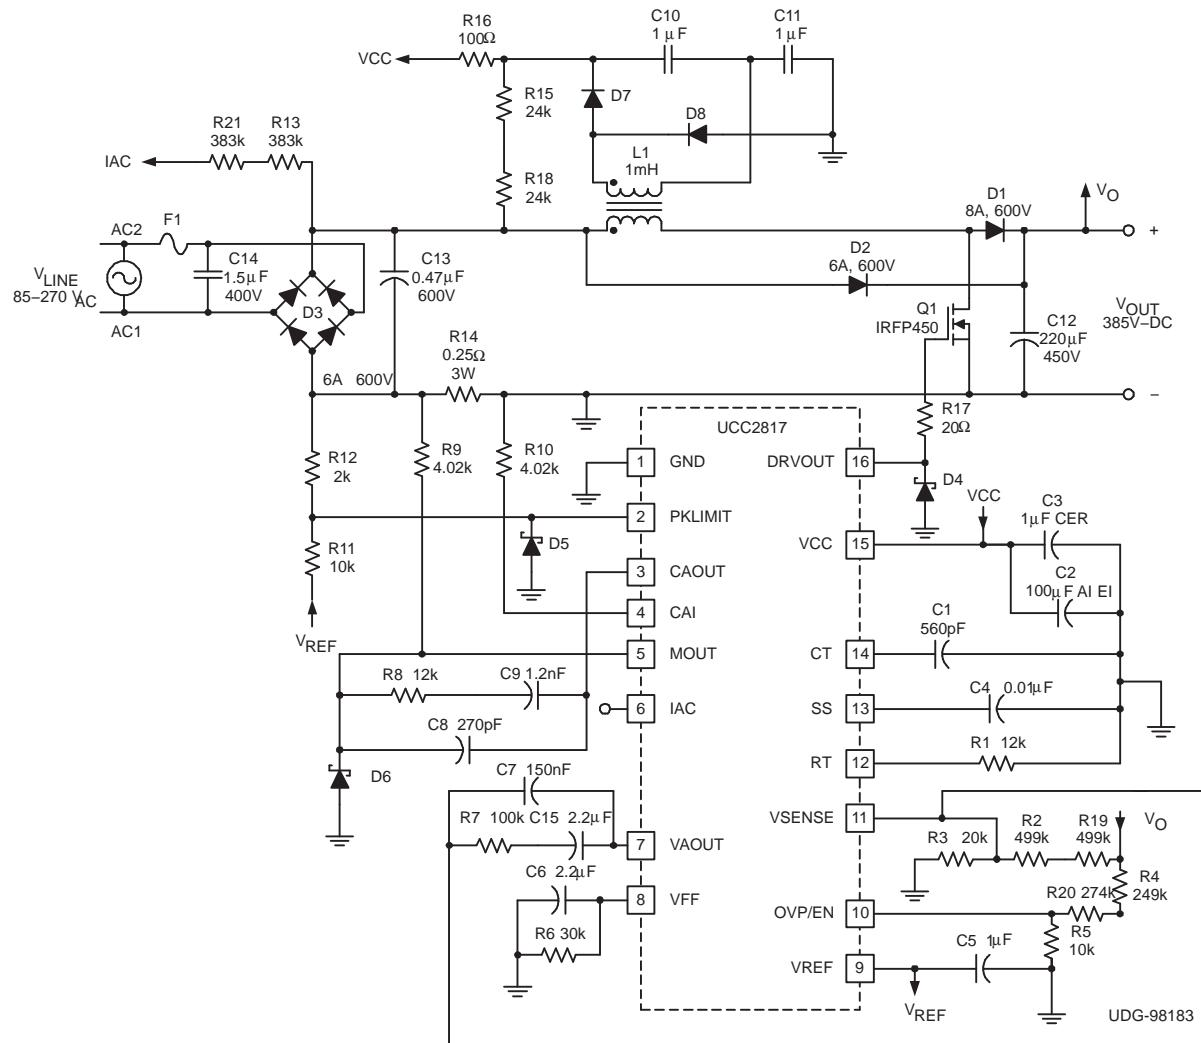

Figure 1. Typical Application Circuit
The UCC2817 is a BiCMOS average current mode boost controller for high-power-factor, high-efficiency, preregulator power supplies. Figure 1 shows the UCC2817 in a 250-W PFC preregulator circuit. Off-line switching power converters normally have an input current that is not sinusoidal. The input current waveform has a high harmonic content because current is drawn in pulses at the peaks of the input voltage waveform. An active power-factor correction circuit programs the input current to follow the line voltage, forcing the converter to look like a resistive load to the line. A resistive load has  $0^\circ$  phase displacement between the current and voltage waveforms. Power factor (PF) can be defined in terms of the phase angle between two sinusoidal waveforms of the same frequency:
The UCC2818 version of the device is intended to have VCC connected to a 12-V supply voltage. The UCC2817 has an internal shunt regulator enabling the device to be powered from bootstrap circuitry, as shown in the typical application circuit of Figure 1. The current drawn by the UCC2817 during undervoltage lockout, or start-up current, is typically 150  $\mu$ A. Once VCC is above the UVLO threshold, the device is enabled and draws 4 mA typically. A resistor connected between the rectified ac line voltage and the VCC pin provides current to the shunt regulator during power up. Once the circuit is operational, the bootstrap winding of the inductor provides the VCC voltage. Sizing of the start-up resistor is determined by the start-up time requirement of the system design.